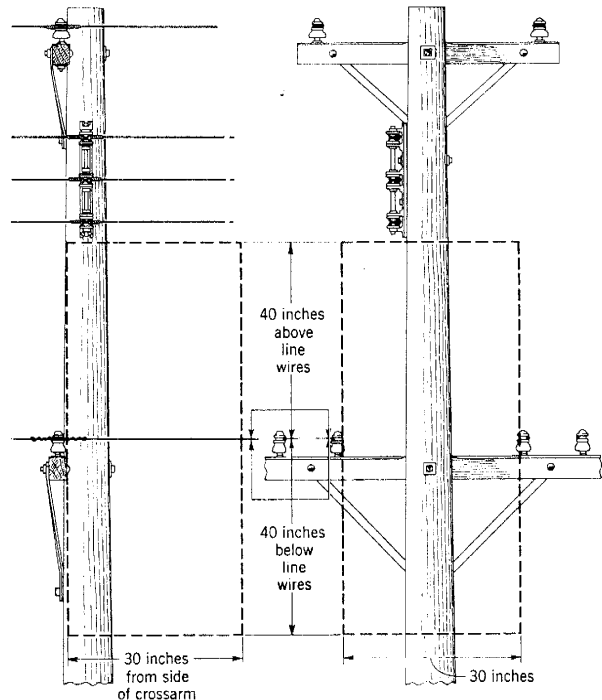

Fig. 1
**2.01** Climbing space is an unobstructed vertical space along the side of a pole. In general, it consists of an imaginary box at least 30 inches on each side and extending at least 40 inches above the highest telephone cable, wire, crossarm, etc., and 40 inches below the lowest telephone cable, wire, crossarm, etc. See Fig. 1.